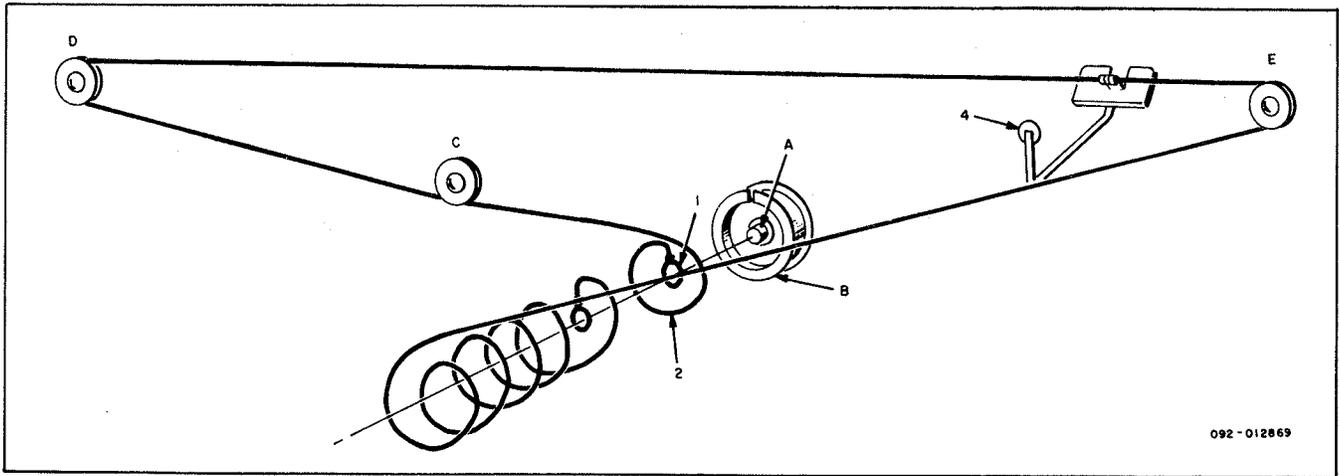

Figure 7. Stringing the Bottom Pointer.
6. Restring the bottom pointer dial cord as follows (see figure 7):